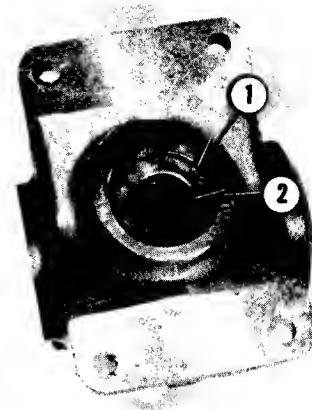

FIG. 10.10--OUTPUT SHAFT SEAL AND RETAINING RINGS INSTALLED
15. install seal with lip of seal toward Inside of gearbox and install another retaining ring, Fig. 10.10.